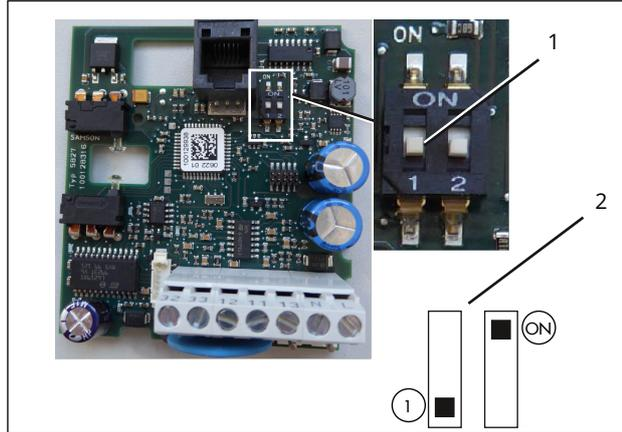
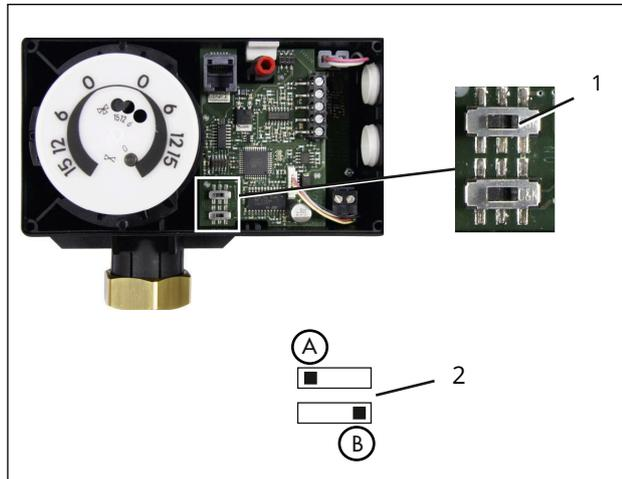

Fig. 21: Function switch (24 V version)
Fig. 22: Function switch (85 to 264 V version)
3. Switch the function switch briefly back and forth between positions (see Fig. 21 and Fig. 22).
The red LED indicates that initialization is in progress (see Fig. 21).